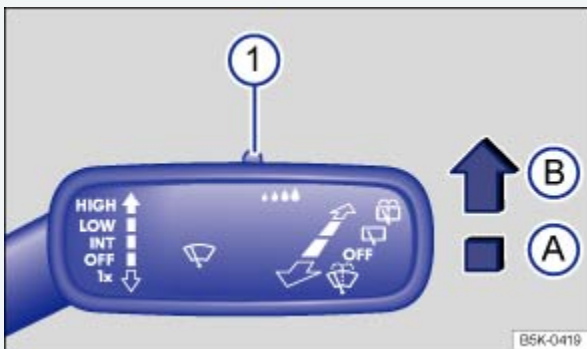

Fig. 93 Windshield wiper lever: Adjusting the rain sensor ① (if equipped).
When switched on, the rain sensor automatically shortens or lengthens the time between wiping intervals depending on how hard it is raining ⇒ . The rain sensor's sensitivity can be adjusted manually ⇒ Fig. 93 ① .
Push the lever into the desired position ⇒ Fig. 93 :